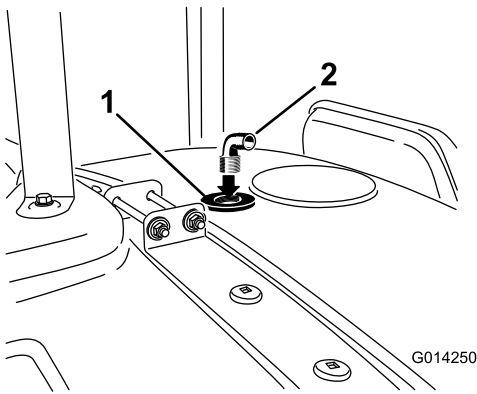

Figure 18
9. Install the fitting into the threaded opening of the rinse nozzle bulkhead (Figure 18).